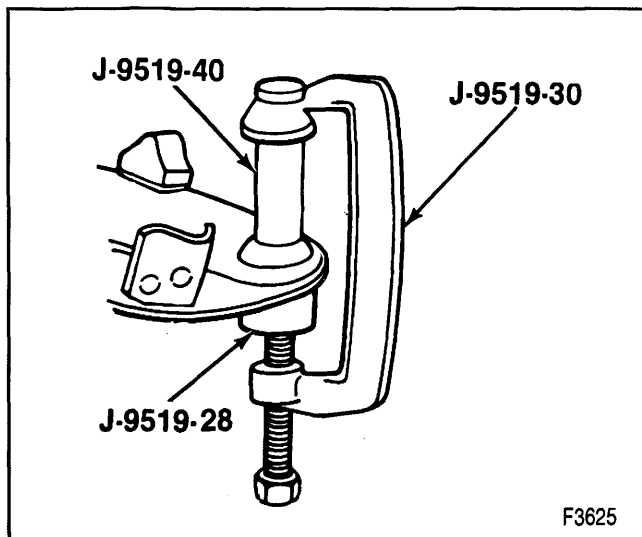

Figure 14—Removing the Lower Ball Joint
5. Lower ball joint (69) from the lower control arm.
- Use tools as shown in (figure 14).